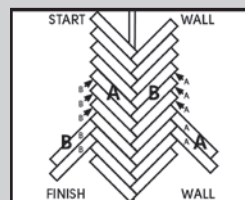

Fig. 7
8. Begin at the 'Finish wall' and slide the end joint of a 'B' plank into the side of an 'A' plank. Slide the 'B' plank back into the end of the 'A' plank at a slight angle until tight (Fig 7). Note: if there is any drift off the centre line, the product can be moved back and forth across the floor (Fig 7).